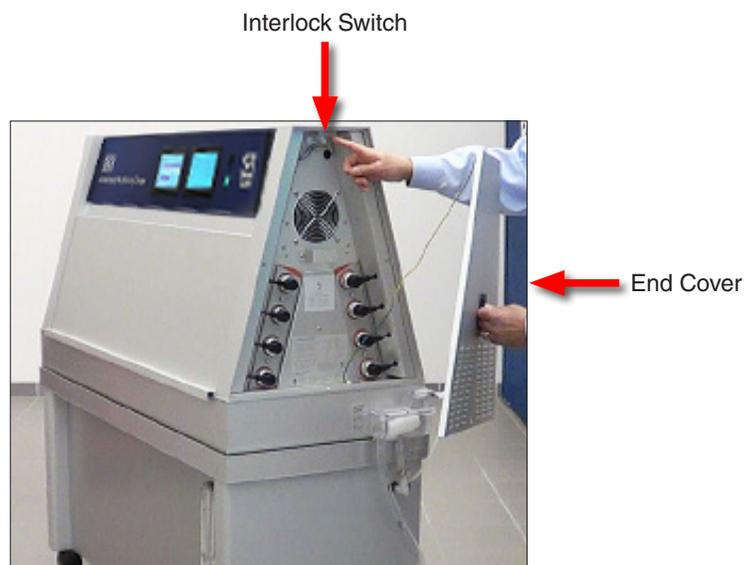

Figure 2.1: Power off to lamps when an end cover is removed.
- The QUV uses 400 volts to operate its fluorescent ultraviolet (UV) lamps.
- Interlock switches remove power to the UV lamps when end covers are removed (Figure 2.1).